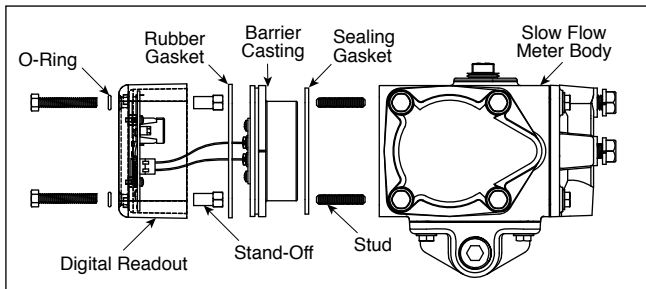
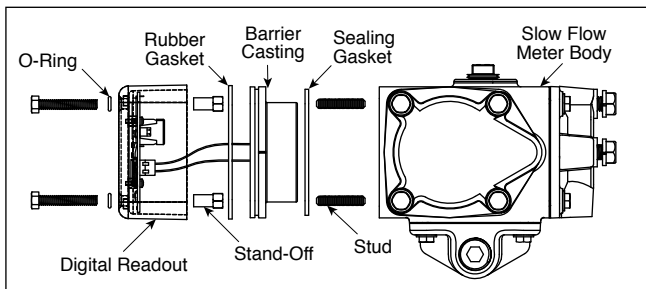

Figure 3 - Converting from a Digital Readout Meter to an Intrinsically Safe Readout Meter
Figure 4 - Converting from an Analog Readout Meter to an Intrinsically Safe Readout Meter
2. Install the new studs, sealing gasket, barrier casting and four aluminum stand off pins. Use a maximum 2 ft-lb (2.71 N-m) torque on the stand-off pins to avoid damaging the case. See Figure 3 (digital) and Figure 4 (analog).